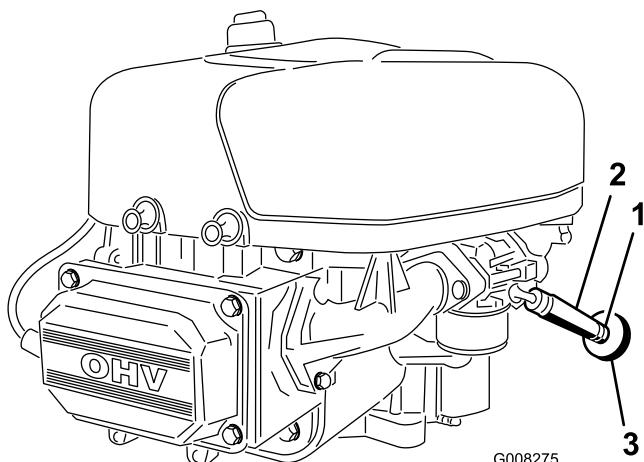

Figure 26
7. Loosen the hose clamp at the fuel filter and slide it up the fuel line away from the fuel filter (Figure 26).
8. Pull the fuel line off the fuel filter (Figure 26).
11. Slide the hose clamp close to the fuel filter to secure the fuel line (Figure 26).
The best time to replace the fuel filter (Figure 26) is when the fuel tank is empty. Never install a dirty fuel filter after it has been removed from the fuel line.